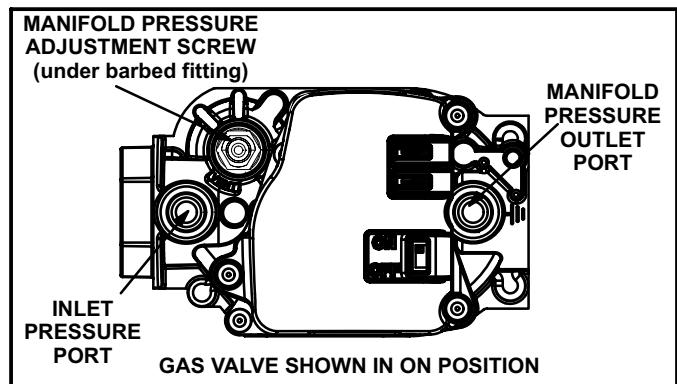

FIGURE 54
#### Gas Valve Operation (Figure 54)
- 6 - Move gas valve switch to **OFF**. See figure 54.
- 8 - Move gas valve switch to **ON**. See figure 54.